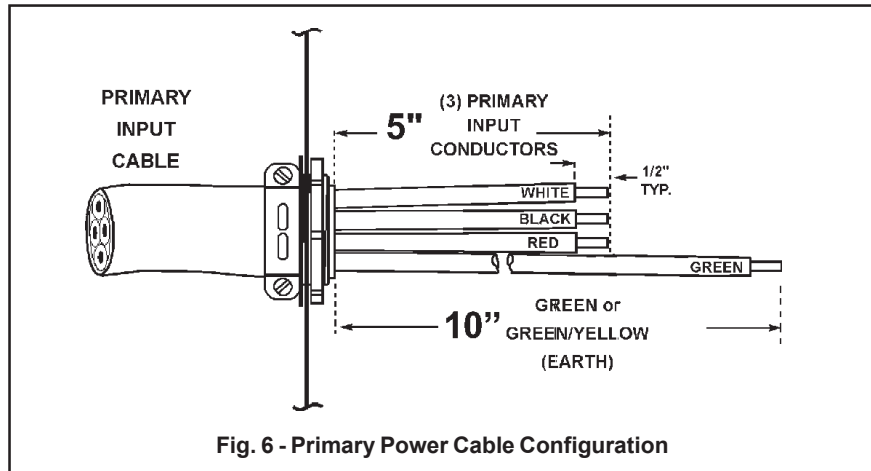

Fig. 6 - Primary Power Cable Configuration
- Safety codes specify that the Power Cable GROUND wire be the last to break connection should the cable be pulled out of the unit. Be sure to cut and strip wire as shown in Figure 6.
1. Connect terminal lug end of the work cable assembly to stud on lower left corner of front panel. Nut should be wrench tight. (Fig. 6). Electrically connect work cable to work piece. The connection must be made to a clean, exposed metal surface free of paint, rust, mill scale, etc. (Fig. 6)